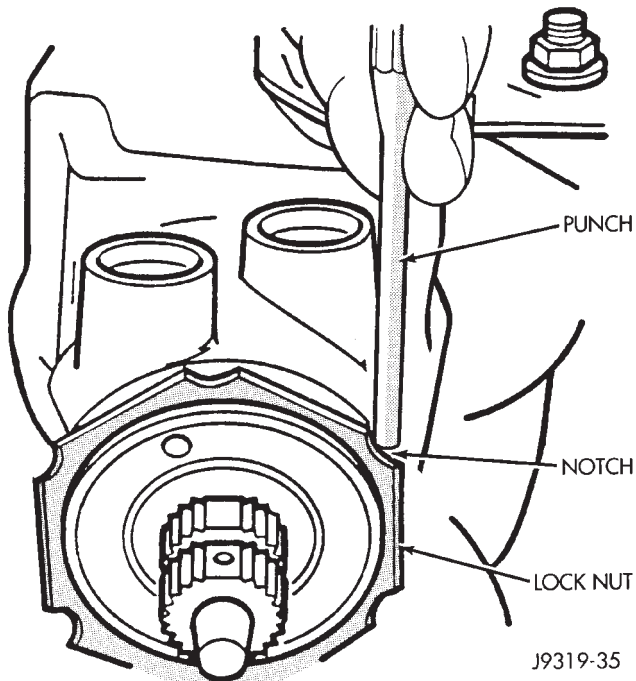

Fig. 24 Tighten Lock Nut
(8) Install adjuster plug into housing with Spanner Wrench C-4381.
(9) Adjust bearing preload, refer to Thrust Bearing Preload Adjustment.
(10) Install adjuster plug lock nut, and using a punch (drift) in a notch, tighten securely (Fig. 24). **Hold adjuster plug to maintain alignment of the marks.**
(11) Adjust pitman shaft. Refer to Over-Center Adjustment.